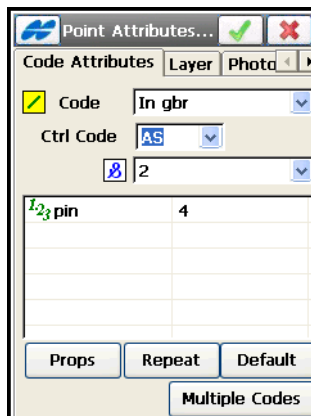

Figure 6-3. Point Attributes
5. To set the code and attributes available for the code chosen, tap the *Attributes List* icon  (Figure 6-3 on page 6-3)